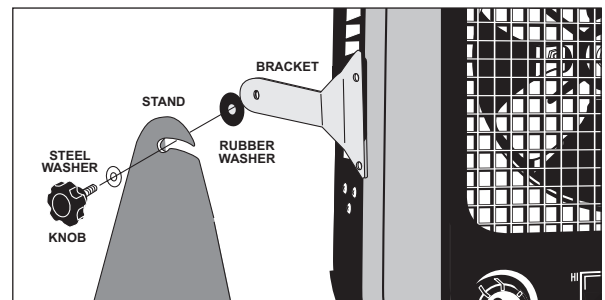

Figure 2
3. With heater sitting on a firm surface, slide the stand onto each knob shaft between the steel and rubber washers (See Figure 2).
4. Slide the stand onto each knob shaft between the steel and rubber washers (Figure 2).